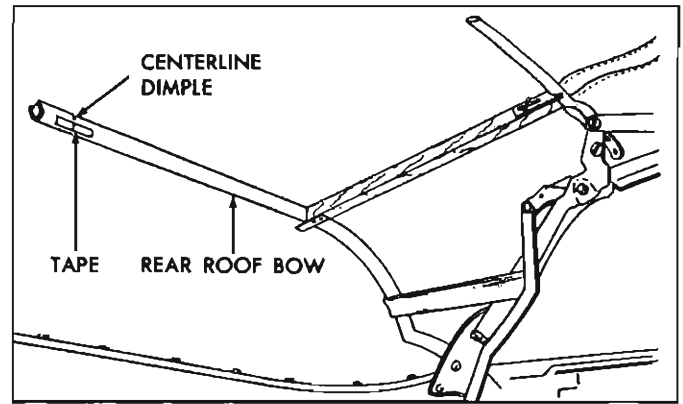

Fig. 57—Marking Rear Roof Bow
23. Along forward surface of rear roof bow install a 1" piece of tape at centerline dimple of rear roof bow. Using a pencil, mark centerline of rear bow on tape (fig. 57).
NOTE: The deck seam mark will vary slightly ($\pm 1/4$ ") depending upon position of rear roof bow. Also check centerline mark on inner lining of top material. Mark should correspond to centerline mark on rear roof bow (fig. 57).